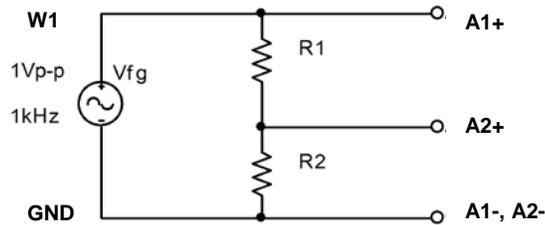

Figure B-6.
- Use the signal generator, W1, of the M2K to put an AC signal on a resistor divider circuit shown in Figure B-6. Set the Signal Generator to 1kHz and Amplitude to .5 V (since the goal is $1V_{p-p}$). Use $R1 = 1k\Omega$ and $R2 = 1k\Omega$. Take data and plot the output using Excel.